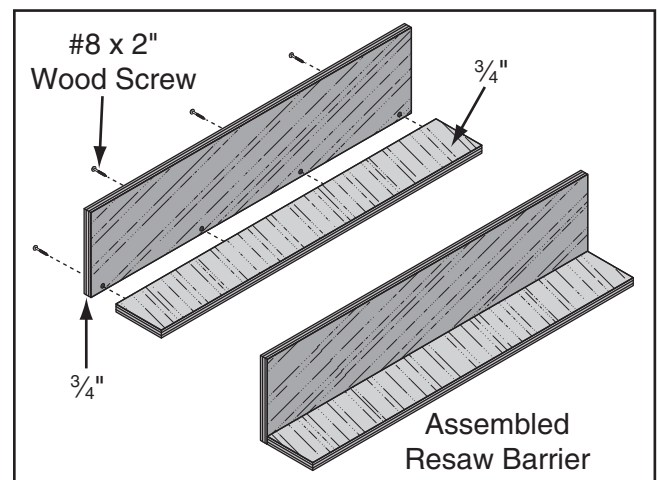

Figure 67. Resaw barrier.
3. Glue the end of the 3" board, then clamp the boards at a 90° angle with the larger board in the vertical position, as shown in **Figure 67**, fasten together with the wood screws.